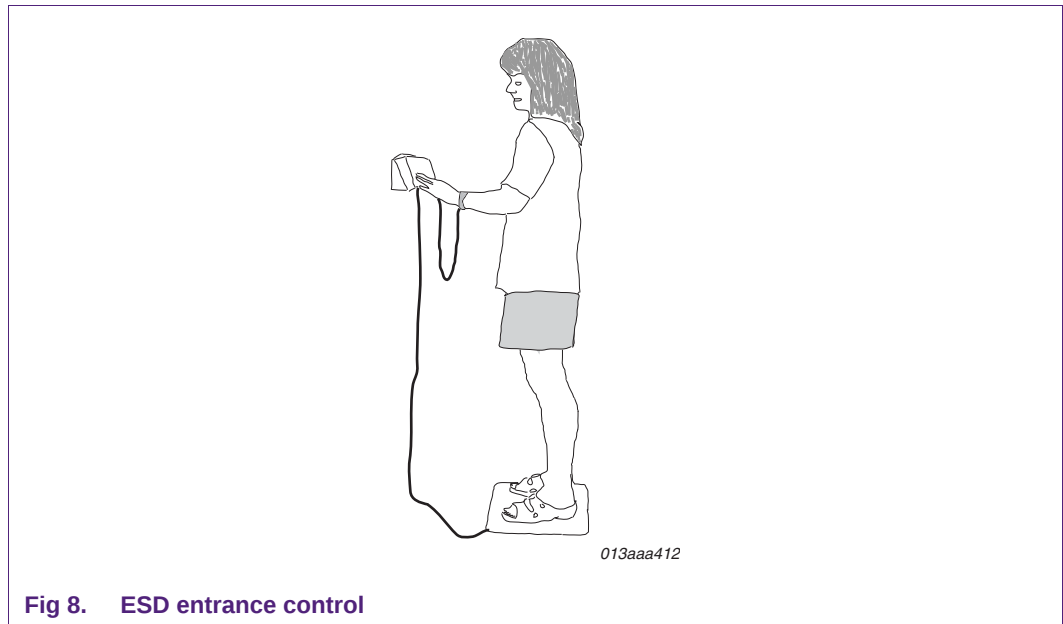

Fig 8. ESD entrance control
- At the entrance of an Electrostatic Protected Area (EPA) the electrostatic conductivity has to be checked (see Figure 8).